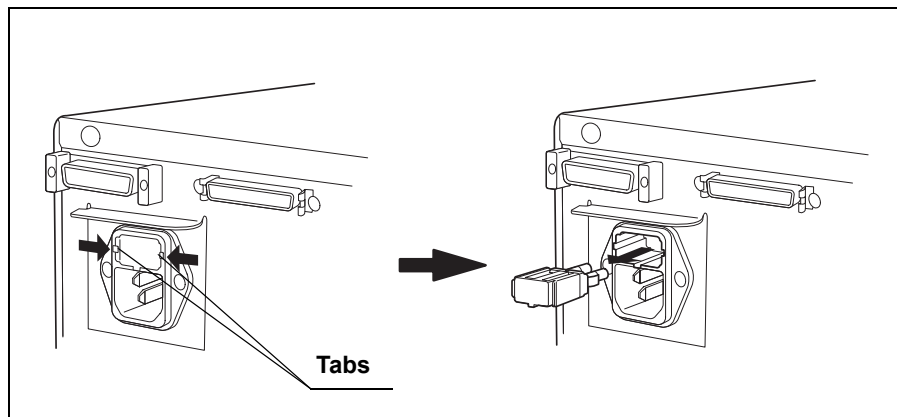

Figure 5.10
2. Pull the fuse box straight out, squeezing the tabs projected on both sides of the fuse box using a pair of tweezers (see Figure 5.10).